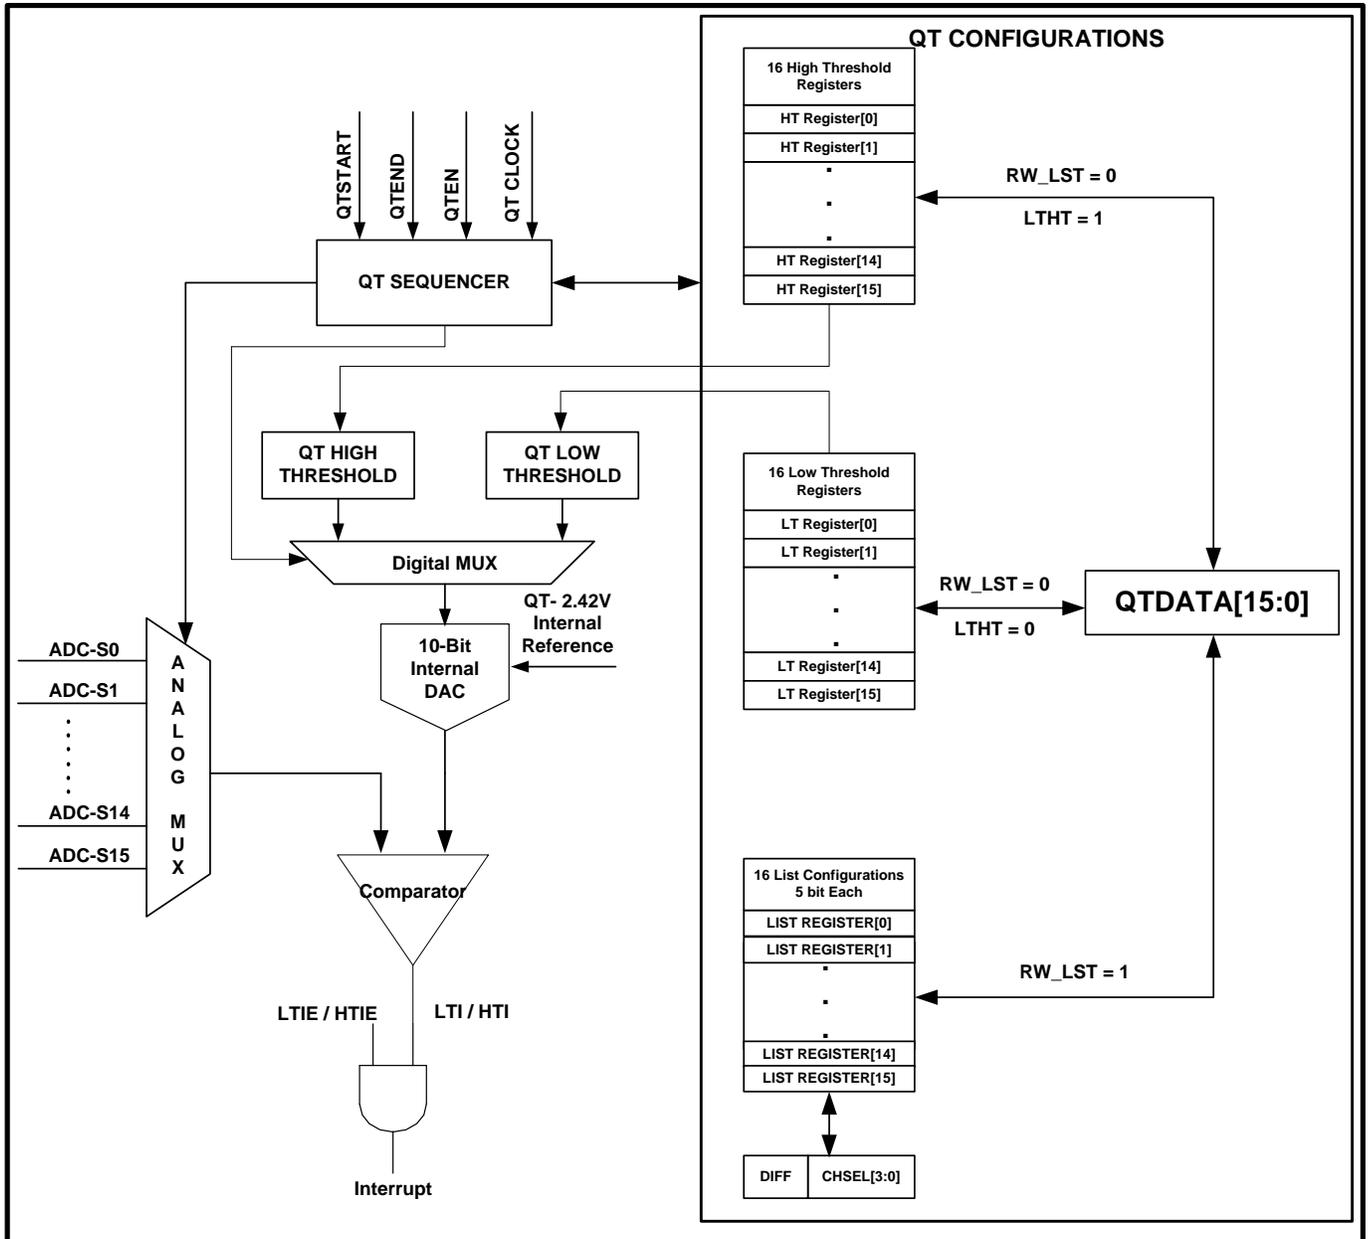

Figure 9-1: Quick Trip Functional Diagram
The DS4830A has 10-bit quick trips with a 16-input analog MUX (Figure 9-1). The MUX selects the quick trip analog input from 16 external channels. The quick trip external channels can be configured to operate as eight fully differential inputs or sixteen single-ended inputs. The quick trip monitors all configured quick trip channels in a round robin sequence.
As shown in Figure 9-1, the DS4830A Quick Trip (QT) controller has a 16-input analog MUX and Quick Trip Sequencer. The QT sequencer creates a list of configurations and sets user defined low and high threshold for external channels. The quick trip controller has 16 low trip threshold and 16 high trip threshold internal registers.
The Quick Trip Control Register (QTCN) has two bits `RW_LST` and `LHT` which are used to configure thresholds and list creation. The `QTIDX[3:0]` bits (located in the QTCN register) together with `LHT` and `RW_LST` bits select the source or destination address for the `QTDATA` register access. Figure 9-1 illustrates the threshold configuration and list creation.
As shown in Figure 9-1, the quick trip controller has 16 list registers. These are configured by writing to the QTDATA register when the RW_LST bit is set to '1'. The list address is addressed by the QTIDX[3:0] bits. Each list register uses only lower 5 bits. The first 4 lower bits CHSEL [3:0] specifies the quick trip input channel. The DIFF bit selects between single-ended mode (when DIFF bit is set to '0') and differential mode (when DIFF bit is set to '1') quick trip comparison. The start and stop addresses of the list are provided by the Quick Trip List Register (QTLST). Any channel can be used multiple times at any location in the list.
As shown in Figure 9-1, the quick trip sequencer selects a channel from 16 external channels. The quick trip controller has an internal 10-bit DAC which generates voltage for low and high threshold comparisons with the external channel input. The quick trip is also called a "Fast Comparator" as it compares the input with threshold using the fast comparator. The conversion time is 1.6µs for each threshold; so each channel's thresholds are compared in 3.2µs (1.6µs for low trip threshold + 1.6µs for high trip threshold).